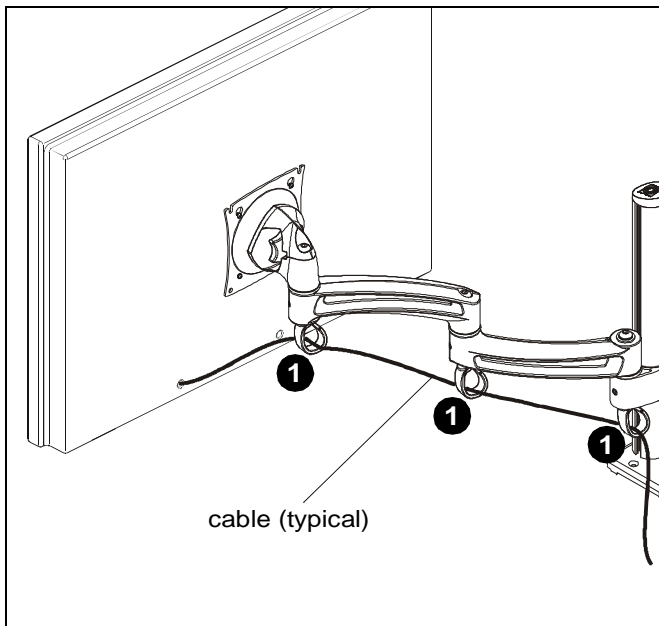

Figure 9
1. Route cables through cable management channels. (See Figure 9)